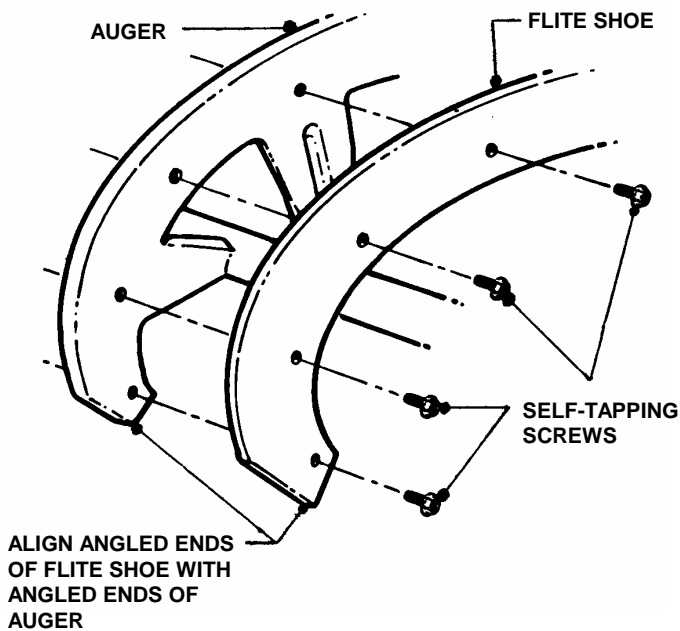

FIGURE 4.4
3. Install new flite shoes to auger using self-tapping screws removed previously. Tighten screws securely. DO NOT overtighten. See Figure 4.4.